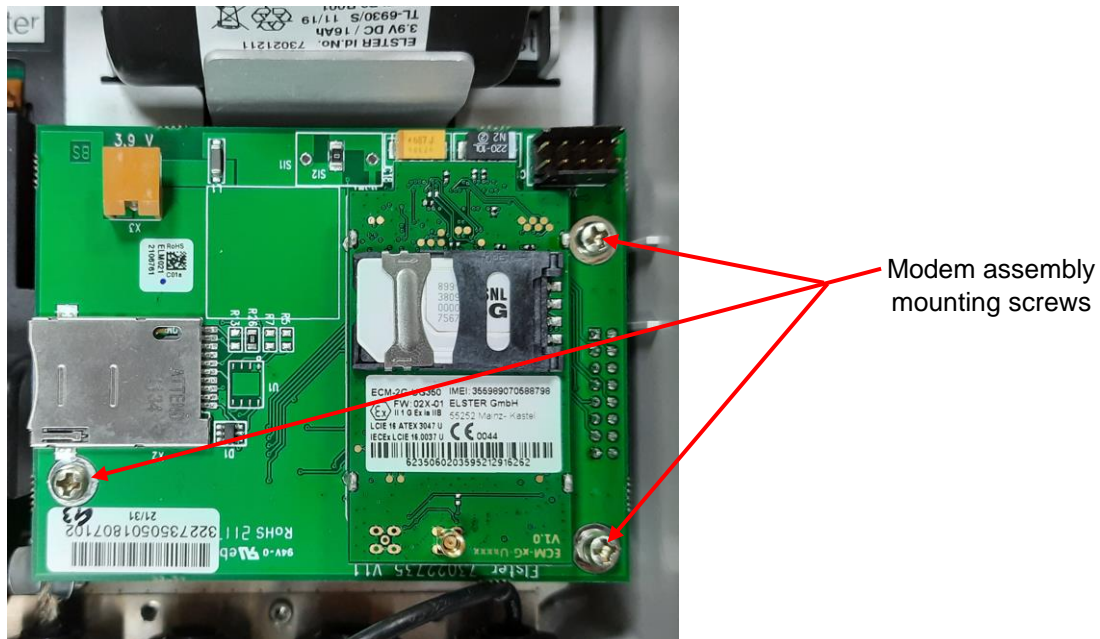

Fig. 28: Modem Assembly showing the three mounting screws
- Remove the three screws from the top of the modem assembly and lift the modem assembly away from the bracket. (see Fig. 28)